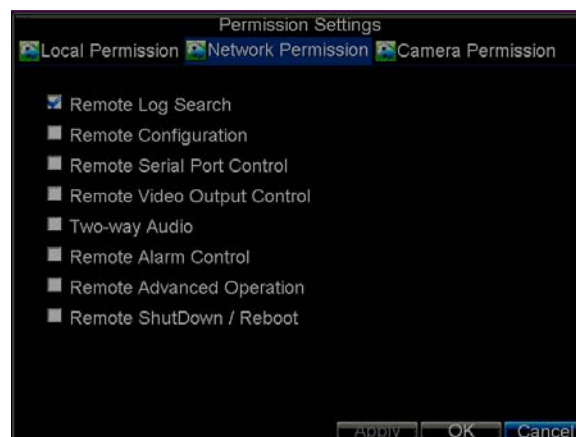

Figure 7. Network Permission Settings Menu
8. Click on **Network Permission** tab to configure network permission settings, as shown in Figure 7. The network settings include: